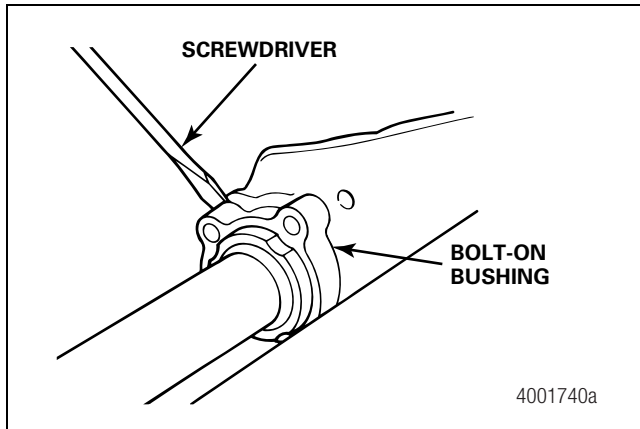

Figure 5.4
3. Use a screwdriver to pry the bolt-on bushing out of the spider retainer hole. The bushing has recesses to help you remove it. Figure 5.4.